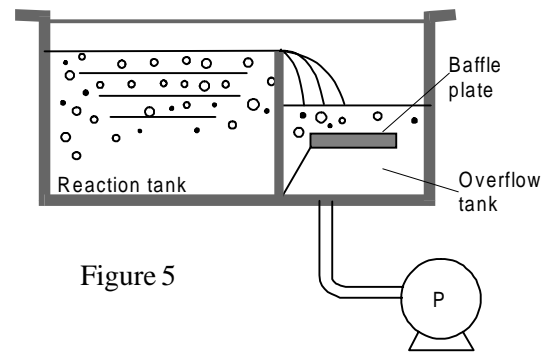

Figure 5
1. In case of flooded suction system (Figure 5)